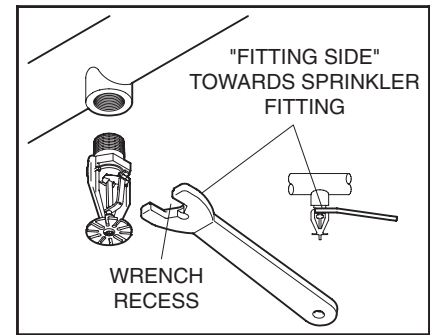

Figure 2
Step 3. Wrench tighten the ESFR-17 Sprinkler using only the W-Type 21 Sprinkler Wrench (Ref. Figure 2) and by fully engaging (seating) the wrench with the sprinkler wrench flats.